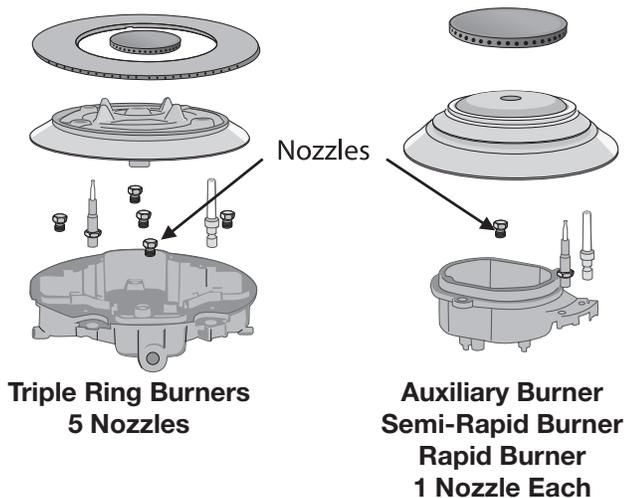

Figure 14
- 8 Install the proper nozzles in the exact locations as noted in the illustrations below (see Figures 14).
- 12 Check each cooktop burner for proper low flame: Push and turn burner knob to Low; the flame size should be 1/4" to 3/8" (0.64 cm to 0.95 cm) high. (See Figure 14)